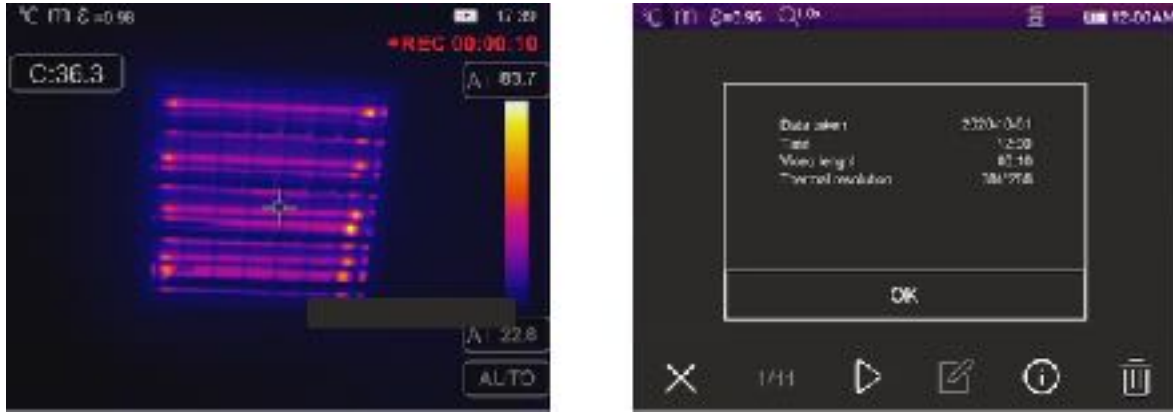

Fig. 46: IR video recording
1. **Press and hold key T (Trigger) for at least 2s.** The “REC” indication and the elapsed time are shown at the top of the display to indicate that recording is in progress (see Fig. 46 – left side).